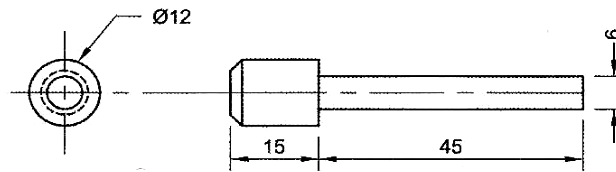

FIGURE 1
- 3** One piece  $\varnothing 12 \times 55$  long, turned as shown in **Figure 1**.